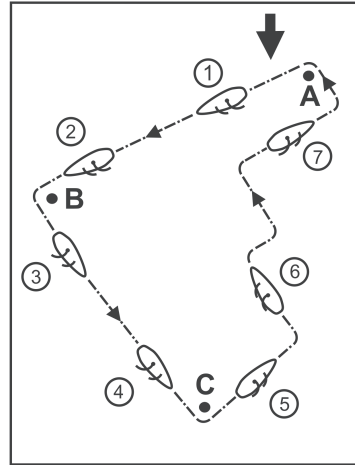

Figure 15
Figure 15 briefly explains the basics of sailing manoeuvres for a square trip in a few brief words. The information in chapter 10 is also helpful.
Start in point A at about 45° side wind (for wind direction, see arrow). The rudder is set to neutral. The angle of attack of the sails is about 20° (figure 15, item 1).
Just before you turn to the left by 90° at turning point B, you need to slowly „pull“ the sails (reduce the angle to the longitudinal axis of the boat). The rudder is still set to neutral (figure 15, item 2).
Once the longitudinal axis of the boat is aligned in the direction of point C (figure 15, item 3), set the rudder back to neutral. For best sailing performance, you can enlarge the angle of attack of the sails a little again until the next turn (open sails again).
Just before you turn to the left by 90° at turning point C, you need to slowly „pull“ the sails (reduce the angle to the longitudinal axis of the boat). The rudder is still set to neutral (figure 15, item 4).
Once the longitudinal axis of the boat is aligned (laterally offset) in the direction of point A (figure 15, item 5), set the rudder back to neutral. For best sailing performance, you can enlarge the angle of attack of the sails a little again until the next turn (open sails again). Make sure that the sails do not break in or flutter.
To return to the starting point A, you need to drive „into the wind“ at a zigzag. It is important that the sails are only opened enough not to drop or flutter (figure 15, items 6 and 7).